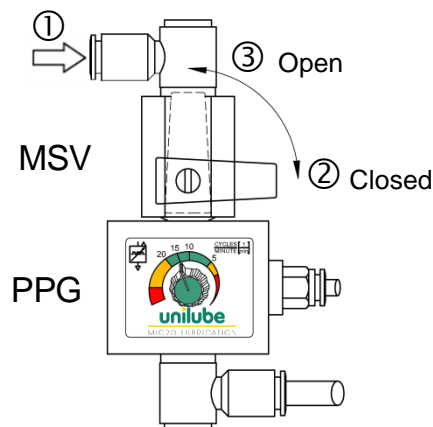
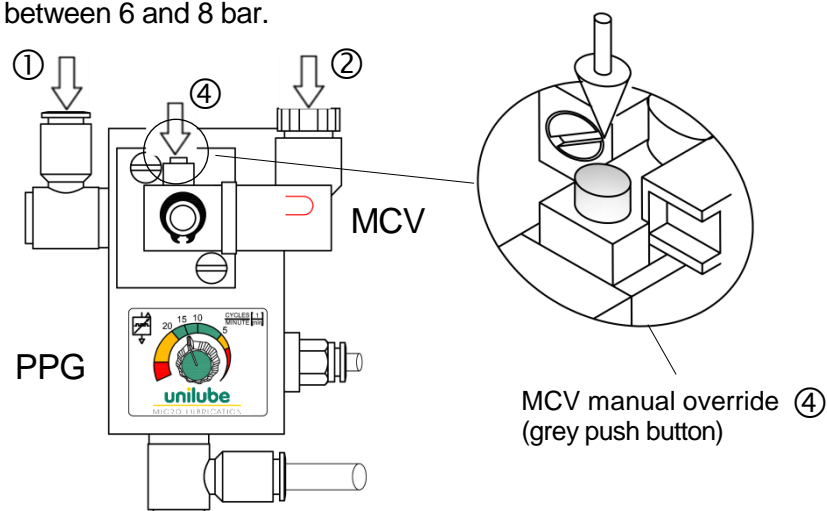
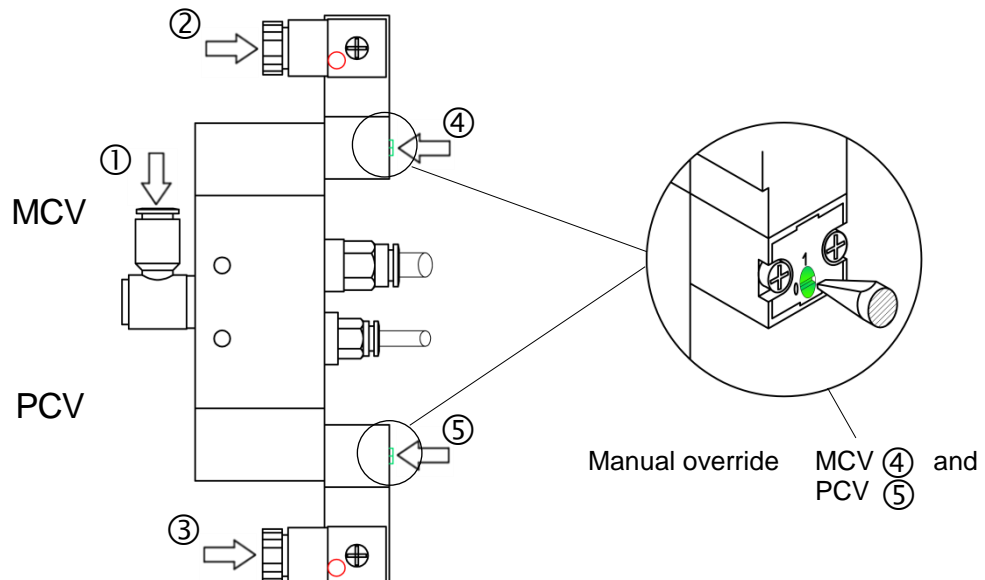

Fig. 6: Manual shut-off valve and Pneumatic Pulse Generator – connection and emergency actuation
Fig. 7: Electric Main Control Valve and Pneumatic Pulse Generator, connections, LED and manual overrides
Fig. 8: Twinvalve, Main and Pump Control Valve, connections, LED and manual overrides
- 4.6 The compressed-air line is connected via the push-in screw fitting (TUBO Ø 6x4 mm) or the internal thread (G 1/8") of the Manual Shut-off Valve (Fig. 6 ①) or the Main Control Valve
(MCV, Fig. 7 ①, option). When the valve is closed (Fig. 6 ② “Closed” position), the MLS is depressurised; when the valve is open (Fig. 6 ③ “Open” position), compressed air is supplied to the MLS.
If the Manual Shut-off Valve (*Fig. 6 MSV*) is installed, operation (MLS on – MLS of) takes place e.g. via a machine-side control valve. The MSV must be open (*Fig. 6 ③ "Open" position*) for correct function.
**Before any maintenance work, e.g. on the nozzles, the MLS must be depressurised (electric Main Control Valve switched off on the machine side or Manual Shut-off Valve closed, *Fig. 6 ② "Closed" position*).**
- 4.7 Optional the MLS is coupled to the machine via the electric 3/2-way Main Control Valve with 24 VDC (*Fig. 7 MCV*). A cable socket with LED power indicator (*Fig. 7 ②* or *Fig. 8 ②*) is provided for connection to the machine control system; likewise for connection of the electric Pump Control Valve (option PCV, *Fig. 8 ③*, for setting the delivery cycles, see Chapter 6.4).
When the machine is at a standstill, overrides are provided for maintenance purposes by means of the manual overrides on the electric Main Control Valve via the grey push button (*Fig. 7 ④*) or the screw slot (*Fig. 8 ④*) und am electric Pump Control Valveschen PumpenSteuerVentil über screw slot (*Abb. 8 ⑤*) vorgesehen.
- 6.3 Setting the number of cycles: The Pneumatic Pulse Generator (PPG *Fig. 6, 7 & 14*) determines the cycling of the metering pump; the setting is steplessly variable from 0 to approx. 60 pulses/minute by turning the toggle knob (optimum working range: 5 ÷ 20 pulses/minute, *Fig. Abb. 15* green). The adjustment range has no stop and the toggle knob can be turned in either direction as desired.
When the electric Pump Control Valve (PCV option, *Fig. 8*) is used, the cycling of the metering pump is determined via the machine control system. With a fixed switch-on time (approx. 0.5 seconds), the quantity of lubricant required for the respective process is set by varying the switch-off time (see separate CONTROL DIAGRAM "Minimal Lubrication System with programmable delivery rate").
15 pulses/minute ( $\hat{=}$  15 piston strokes/min, *Fig. 6*)
Programmed pulses ( $\hat{=}$  CNC machine control system *Fig. 8*)
8.2.7 Switch on the compressed air (e.g. by overriding the MCV Fig. 7 or Fig. 8 ④) and watch the air bubbles move through the capillary line until the line is free of bubbles over its entire length up to the nozzle head (duration: approx. 0.75 minutes / 1 metre coax line length).
**When working on the nozzles, make absolutely sure that the tools are at a standstill and the machine is switched off; for maintenance purposes, simulate operation with manual override (see Fig. 7 or Fig. 8 ④ and Chapter 4.7). Do not point the nozzle tip at people, especially not at their eyes – risk of injury!**